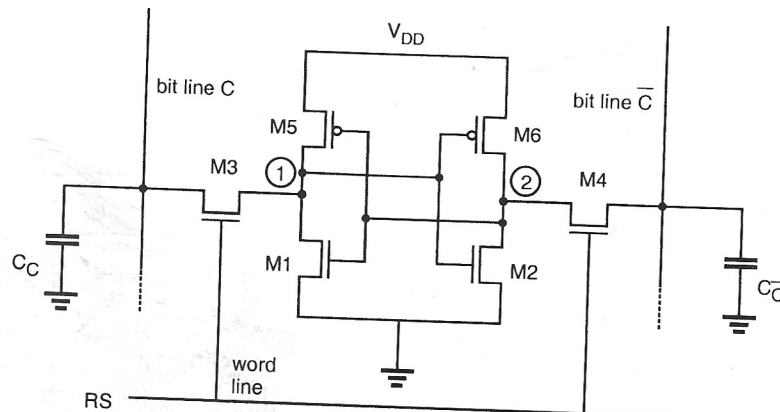

Figure P10.4
- 10.4 Consider the CMOS SRAM cell shown in Fig. P10.4. Transistors M1 and M2 have (W/L) values of 4/4. Transistors M3 and M4 have (W/L) values of 2/4. M5 and M6 are to be sized such that the state of the cell can be changed for $V_C \leq 0.5 \text{ V}$. Assuming that M5 and M6 are the same size, calculate the required (W/L) . Use the following parameters: